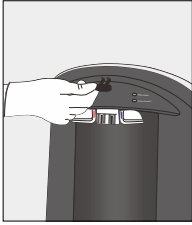

Figure 30
5. Remove the access key provided in the kit and insert this access key into the 2 holes located at the underside of the top edge of the cooler (above water levers) and push inwards (Figure 30 and Figure 31) (once unlocked, the front of the top cover opens upwards)